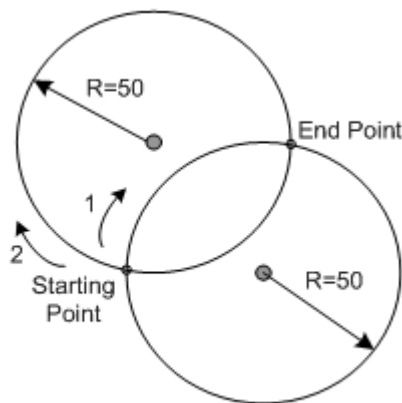

Fig. 4-2-3-5
For example, as shown in Fig. 4-2-3-5, when Arc of ① is less than 180°, it will be G02 U60 W20 R50 F300; when arc of ② is more than 180°, it will be G02 U60 W20 R-50 F300.